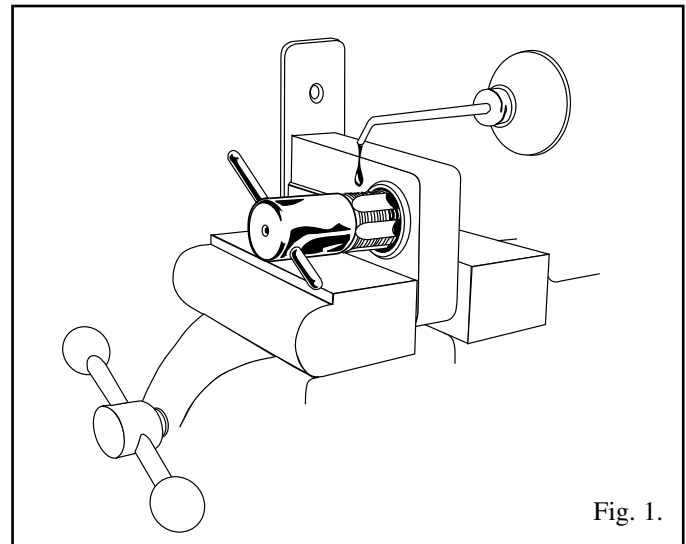

Fig. 1.
1. Place lock case in a vise (if not in the door). Put several drops of oil on the cylinder threads. Enter tap straight into the cylinder hole and turn one half-turn counterclockwise (this will assure you of proper cutting alignment). While carefully holding tap straight, turn clockwise slowly and tap will re-thread stripped or worn cylinder hole. See Fig. 1.